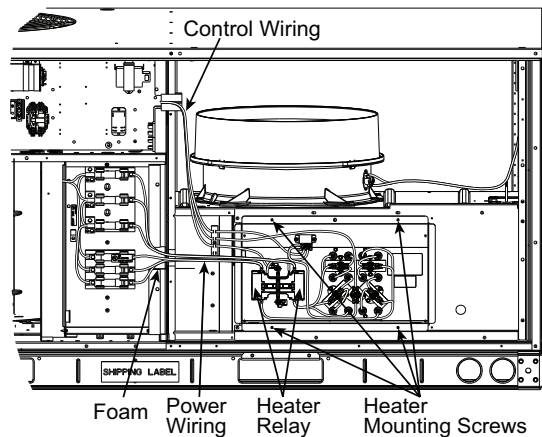
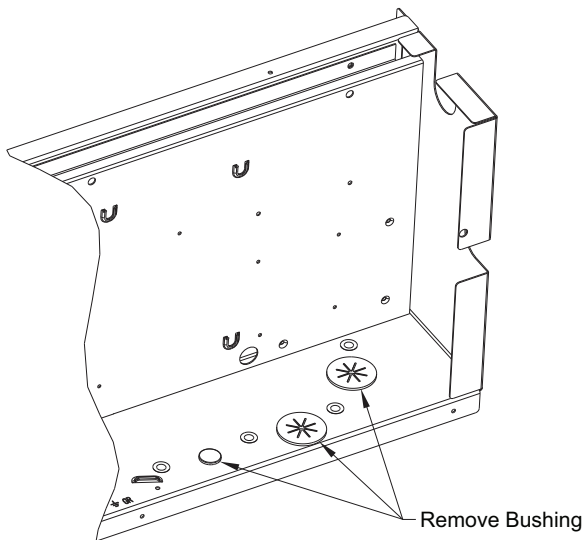
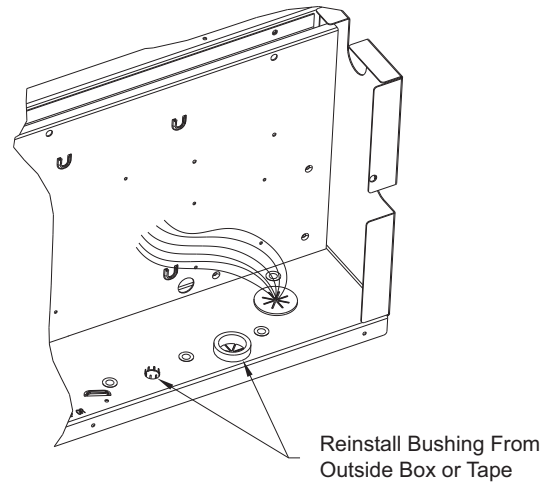

Fig. 3 — Typical Single Point Kit Installation
Fig. 7 — Control Box - Bushings to Remove
Fig. 8 — Bushings Replaced from Outside Control Box
6. Install the electric heater module and connect heater power conductors to single point box or main unit control box per appropriate connections figure. (See Appendix A on page 15.) See Fig. 3 for typical installation.
7. All bushings in the area of the control box where the single point box (SPB) mounts, must be removed prior to securing the SPB to the control box. (See Fig. 7.) Also, for units installed in the snow belt, all unplugged holes in the bottom of the control box which are not used must be plugged before installing the SPB. Use foil tape or re-install the bushings from the outside of the control box prior to securing the SPB. (See Fig. 8.)
8. Remove the single point box cover. Secure single point box to the underside of the control box with the 2 screws provided. (See Fig. 3.) Re-install bushing on the SPB tap conductors. (See Fig. 8.)
- a. Route the set of tap conductors attached at the upper fuse block or terminal block with bushing (see Fig. 8) into the main control box.
- a. Route the first set of tap conductors attached at upper fuse block with bushing (see Fig. 8), into the main control box.
4. Route power wires from heater module through the foam bushing in the center partition and into the single point box. (See Fig. 3 and 12.) Connect to terminal block or fuse blocks per schematics in Appendix A or B. See Tables at beginning of each Appendix to identify the appropriate figure.